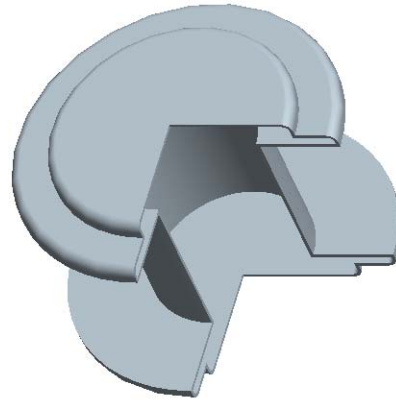

Figure 3-72 Default trimetric view of the model
4. Choose the **Build feature** button from the **Revolve** dashboard. The default trimetric view of the model is shown in Figure 3-72.